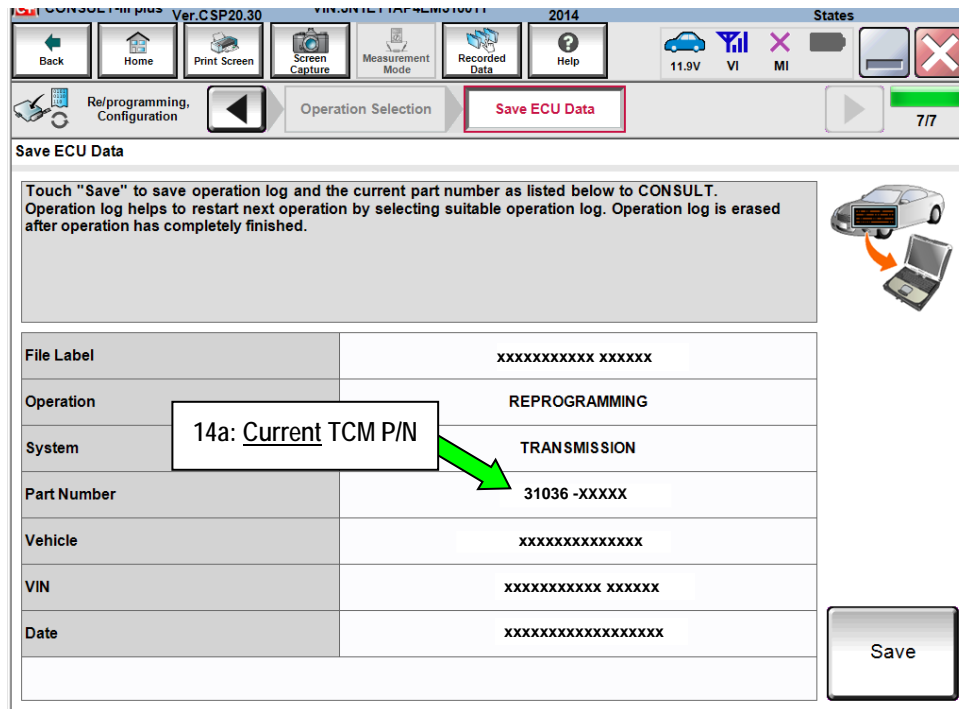

Figure 8A
14. When you get to the screen shown in Figure 8A, confirm this bulletin applies as follows.